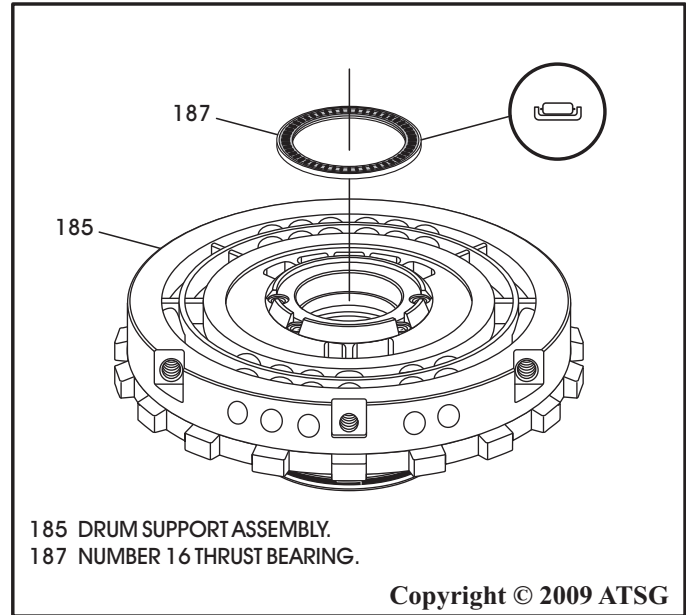

Figure 128
6. Install the number 16 thrust bearing with the needles facing up, as shown in Figure 128, and retain with small amount of Trans-Jel®.